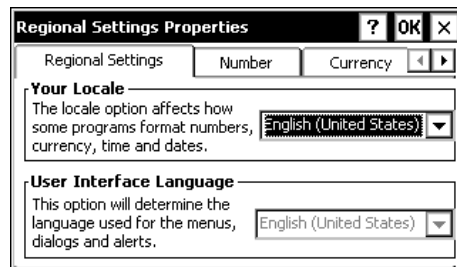

Figure 1-6. Regional Settings
- 1 Tap **Start > Settings > Control Panel > Regional Settings** to display the *Regional Settings Properties* window (Figure 1-6).